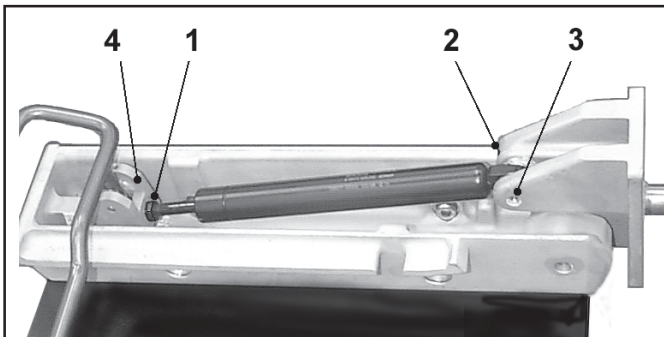

Fig. 23 Gas spring detail
Note: In Fig. 23 a head section is shown, the arrangement is basically the same for a leg section also see WARNINGS and Caution in section 6.4.
- i Release gas piston nut (1, Fig.23) from link (4, Fig. 23)
- ii Release grub screw (2, Fig. 23) retaining pivot pin (3, Fig. 23) and remove the pivot pin by inserting a screw into the end of the pivot pin to aid removal.
- v Adjust the gas spring by screwing the piston into the link until the actuator nipple has 0.5-1.0mm clearance with the release bar and ensure that both gas springs of the section are adjusted to match. Finally tighten the piston nut (1, Fig. 23) onto the link.